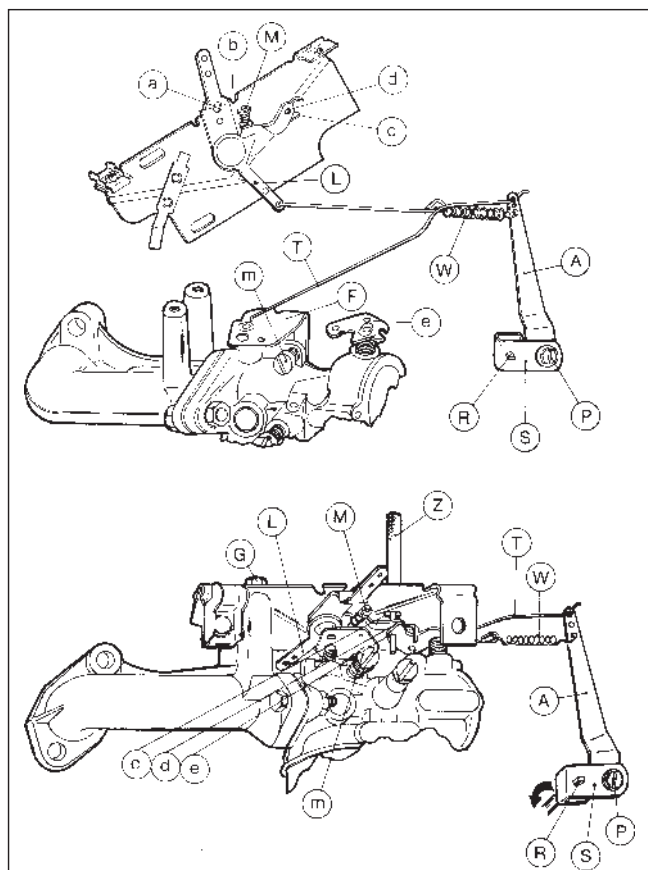

Fig. 15
Link (T) positively connects lever (A) with main throttle lever (F). (Fig 15).
To install this type of governor linkage (Fig 15) proceed as follows:
c) SPEED ADJUSTMENT (Fig. 15)